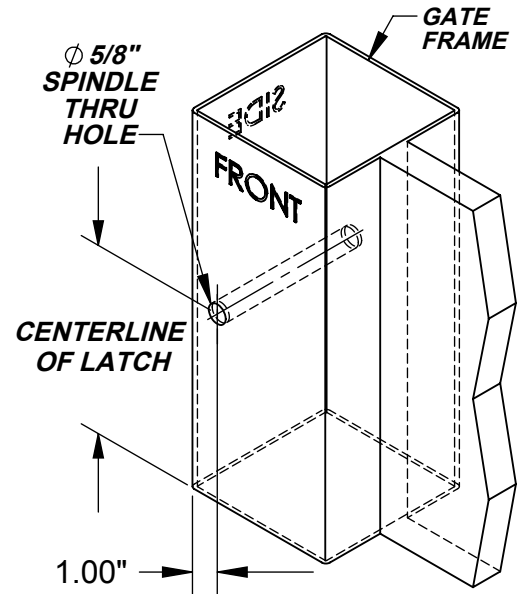

FIG. 1
STEP 1 (Fig. 1) Locating Mounting Holes